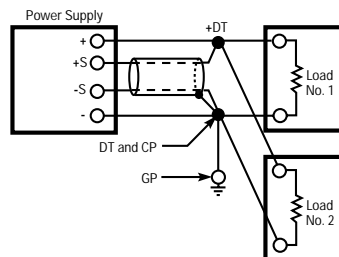

Figure 12 Properly Grounded Power Supply System with Remote Error Sensing
STEP 8. Remove the jumper connections between the power supply sensing and output terminals, and connect the power supply sensing terminals to the dc distribution terminals as shown in Fig. 12.